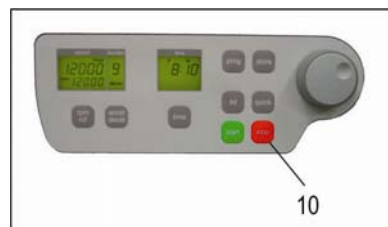

Figure 24
By the „stop“ key (10) (see figure 24) you can interrupt the run at any time. After pressing the key the centrifuge decelerates with the respective pre-selected intensity down to stand still.